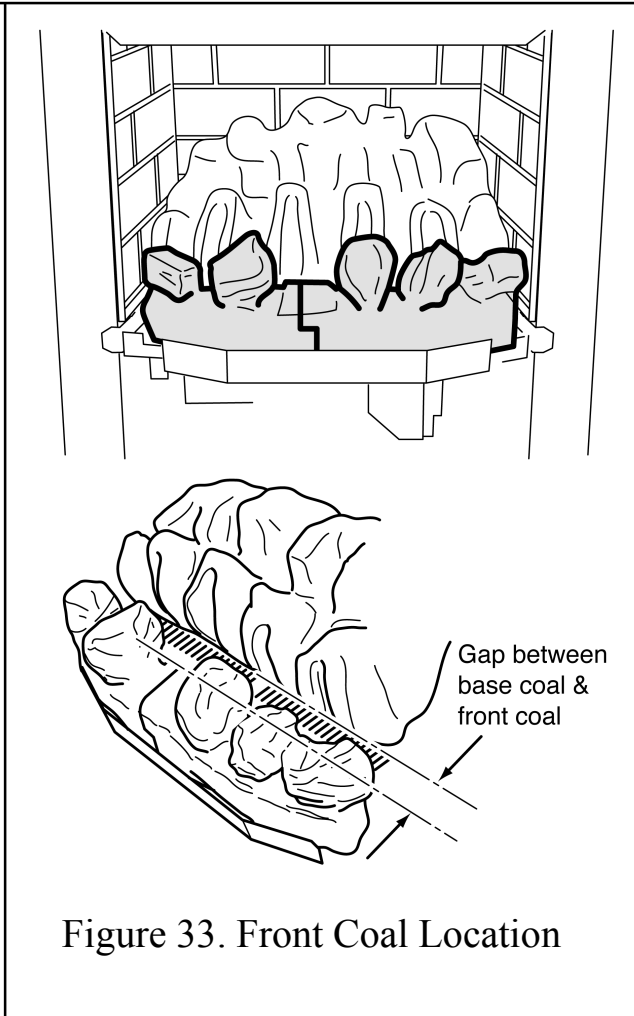

Figure 33. Front Coal Location
2. Place the left-hand ceramic front coal in position in front of the base coal (See figure 33).
3. Place the right hand ceramic front coal in position in front of the base coal. This should overlap the left-hand coal. Push the two sides together to minimise the gap. (See figure 33).
4. There will be a gap between the rear of the front coals and the front of the base coal. (See figure 33).